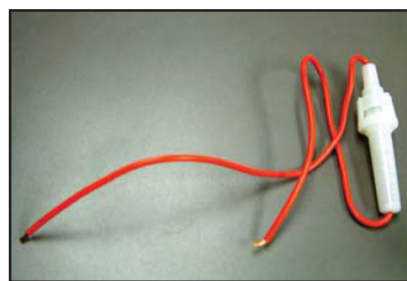
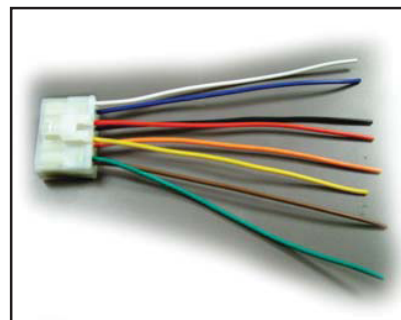

Figure 1 - Fuse Holder Assembly
Figure 2 - Adapter Plug (not used in newer kits)
- Locate the main positive and negative wires for your head light wiring system (most often, the main positive goes directly to the light switch on your dash). Connect the red fuse wire (see figure 1) by cutting the light system positive wire, stripping back both wire ends (where the wire was cut into two pieces), then reconnect using a common butt connector while adding the red fuse holder wire to one end of this new connection. Connect the white wire from the kit's adapter plug (See figure 2), by cutting the negative wire of your cars light system, stripping back the ends approximately 1/4", then reconnect using a butt connector while adding the white